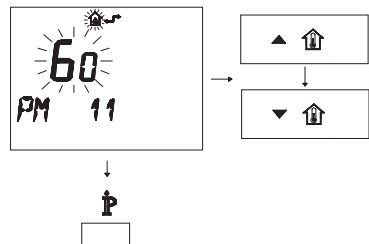

Fig. 8.21
- To modify the programmed SET, act on buttons ▲**UP** or ▼**UP** and wait for the programmed number to flash (Fig. 8.21). Each step increased or decreased corresponds to 1 second.